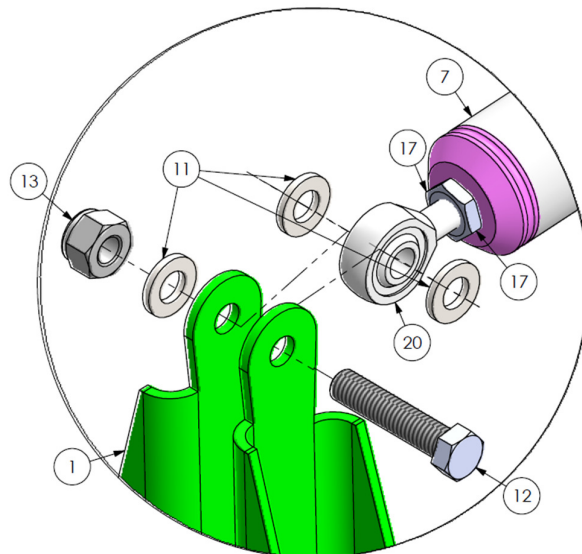

Figure 27: Eyebolt assembly, Detail E
Step 9. To replace the eyebolt seen in Figure 27, remove the AN4 locknut (13) and bolt (12). Replace the *noncompliant* eyebolt (20) with either a *type 1* or *type 2* eyebolt.
Step 10. Once the eyebolt has been replaced, reassemble the eyebolt assembly. Refer to Figure 27 for component positions.